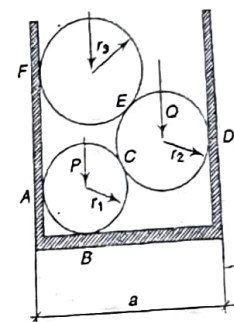

Figure 1
- a) The smooth cylinder rest in a horizontal channel having vertical walls, the distance between which is a (Fig. 1). Find the pressures exerted on the walls and floor at the points of contact A, B, D and F. The following numerical data are given: $P = 200$ N, $Q = 400$ N, $R = 300$ N, $r_1 = 120$ mm, $r_2 = 180$ mm, $r_3 = 150$ mm and $a = 540$ mm.